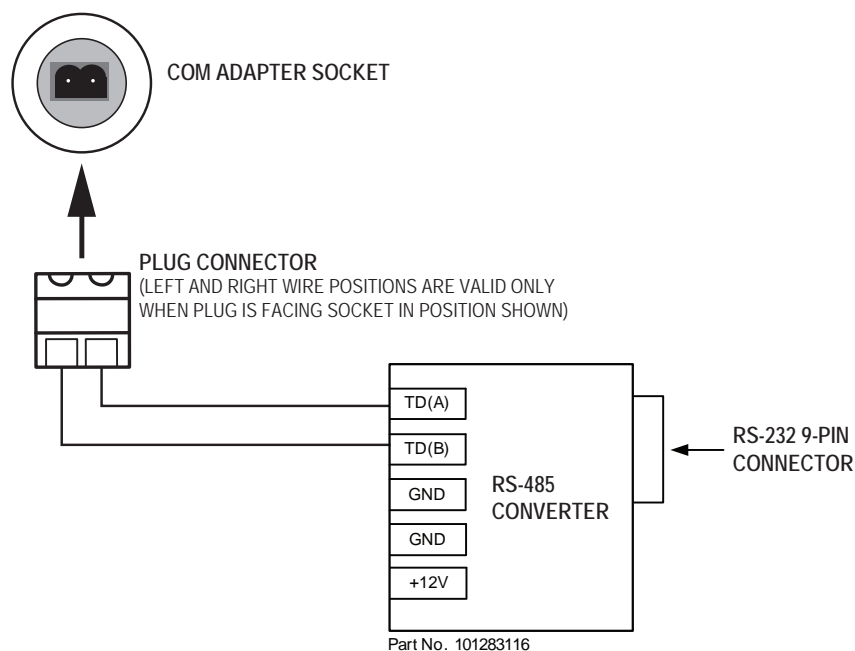

Figure A.5—Wiring of plug connector to 9-pin RS-232 to RS-485 converter cable, Part No. 9A-101283116
A plug connector that mates with the RS-485 adapter socket is shipped with the device (uninstalled). This plug connector should be wired to an RS-485 converter cable as shown in Figure A.5, page A-4, and stored with the cable when the COM adapter is not in use.
2. Wire the plug connector to an RS-485 converter cable, if it is not already attached (Figure A.5).
3. Connect the plug connector to an RS-485 converter cable (Figure A.5, page A-4) if applicable.
4. Connect the plug connector to an RS-485 converter cable (*Figure A.5, page A-4*), if applicable (black wire to negative terminal).